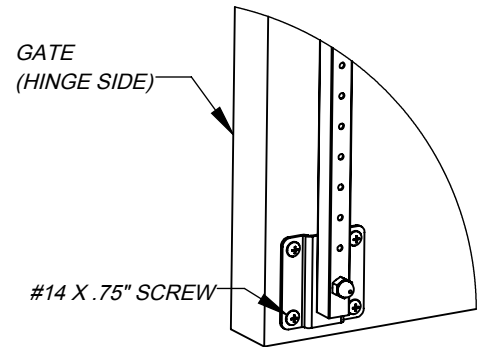

FIGURE 2
Align the Corner Bracket with the bottom corner of the Gate on the Hinge Side, with the Inner Tube pointing straight upward, and mount to the Gate using (4) #14 X .75" Screws (Fig 2).